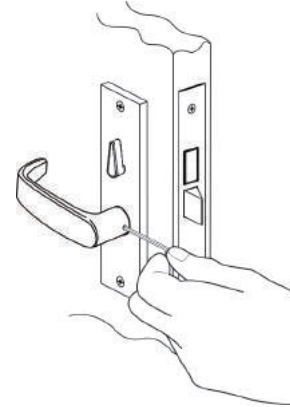

Figure 13
2. Use the 1/8" Allen wrench to tighten the set screw securely. Set screw should seat in the groove of the inside adapter. (Figure 13)